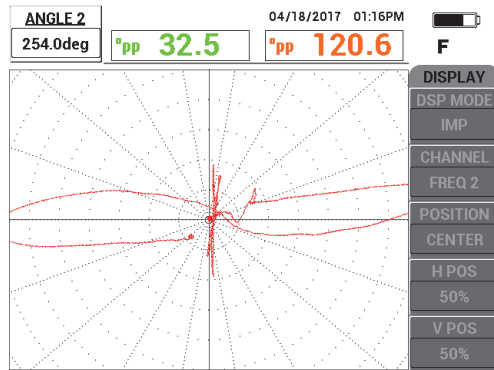

Figure 5-200 Angle adjustment in FREQ 2
5. Press the ANGLE key () and then rotate the signal until the thru-wall signal is vertical on the instrument screen (see Figure 5-200 on page 270).